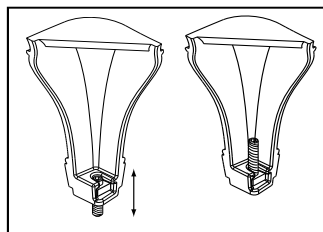
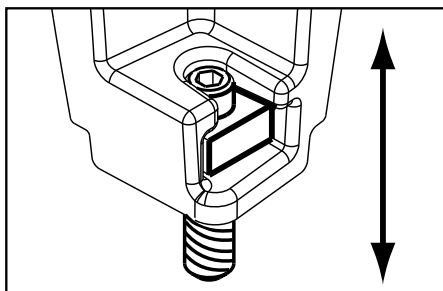

Figure 9B
Figure 9C
2. Slide assembled nuts and bolts into slots on legs with the nuts on the bottom. **Figure 9B.** Use a 5/32" (3.96mm) Allen wrench to adjust legs up and down to desired level. **Figure 9C**